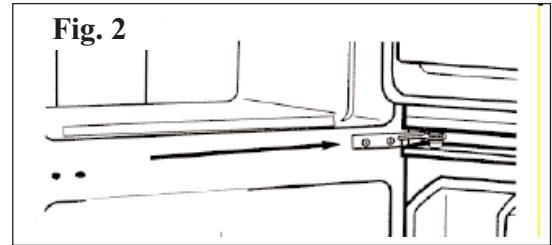

Fig. 2
- 5) Remove the screws from the middle hinge assembly. Then remove the hinge and refrigerator door (open door and pull down) (Fig. 2).
- 7) Remove the door plug and door bushing located on the top and bottom of each door assembly (Fig. 2).